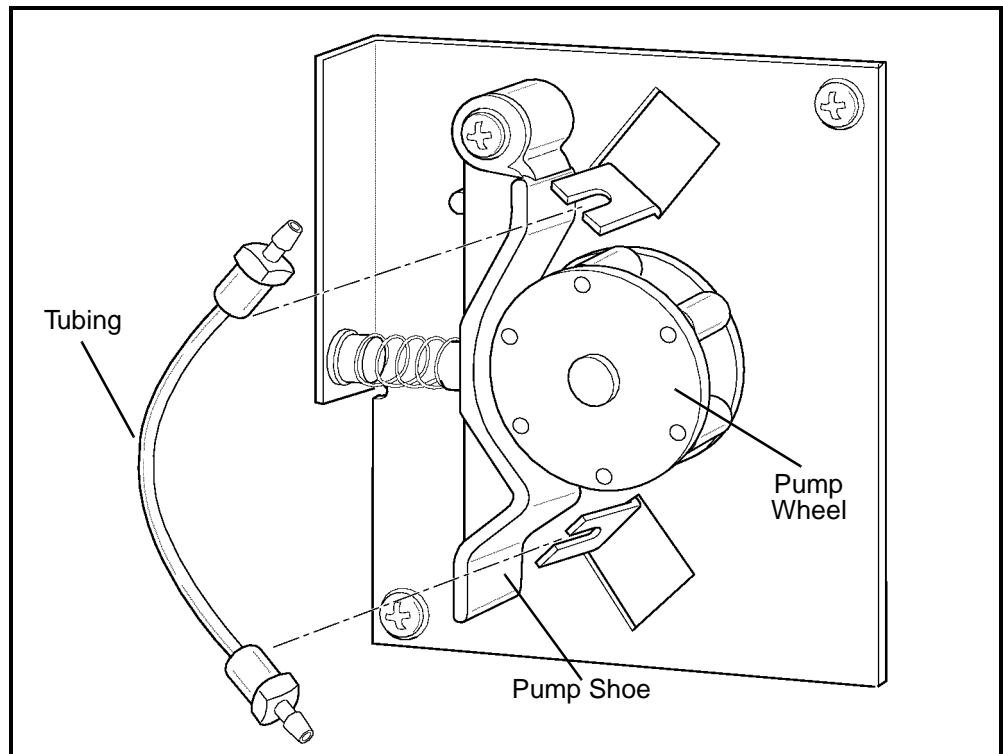

Figure 9.6: Sample Transfer Peristaltic Pump
3. Locate the Sample Transfer Pump on the left side of the Flow Panel. (Refer to Figure 9.6.)
4. Push the Pump Shoe away from the pump wheel and slip the tubing out. (Refer to Figure 9.6.)